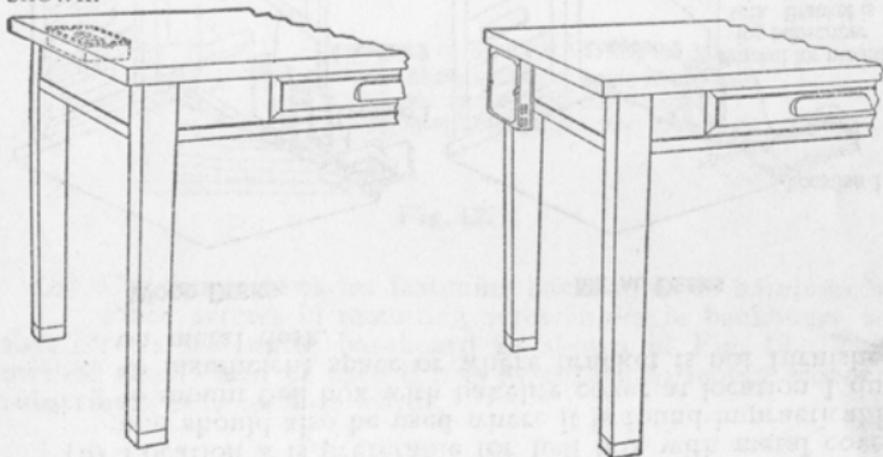

Fig. 4.
3.08 On Tables: Where bell box is to be located on a table, locate it as shown in Fig. 4. These illustrations show the left side of a table. If subscriber wishes instrument placed on right side of table, it may be more desirable to place bell box on right side of table in locations comparable to those shown.